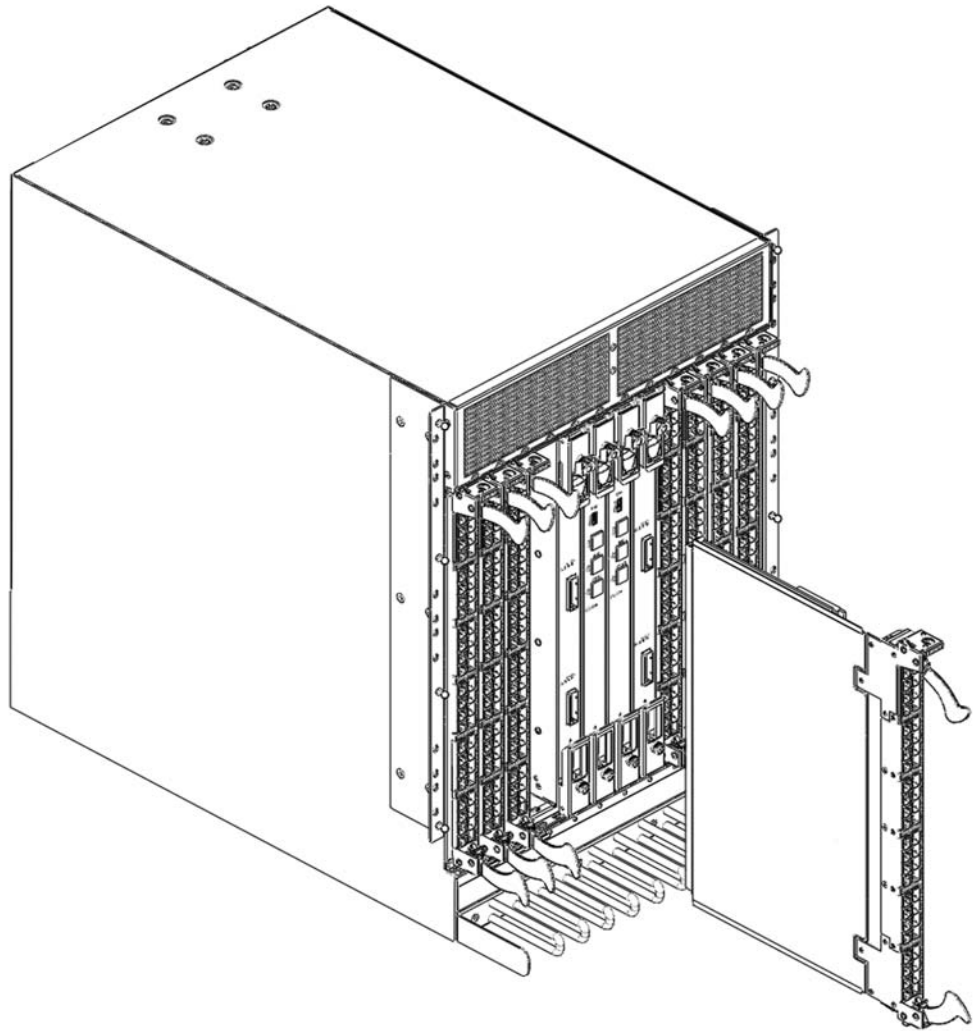

Figure 23. Port blade removal and installation (16-port blade shown as example)
9. For FC8-16, FC8-32, FC8-48, and FC10-6 port blades: Adjust the ejectors to the open position. (See Figure 23 on page 55.) Unscrew the two thumb screws from the top and bottom ejectors on the blade using the Phillips screwdriver. Unscrew the top thumb screw until it pops out. This initiates a hot-swap request.